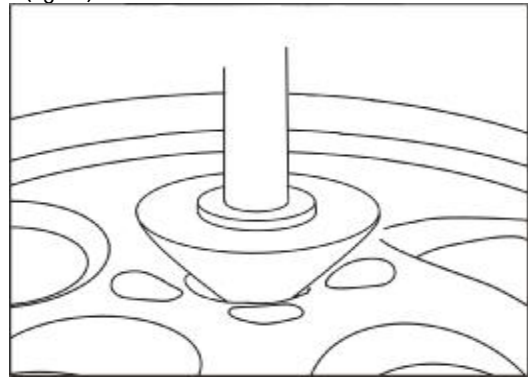
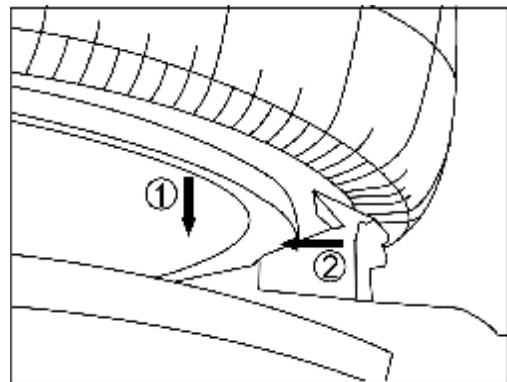

Fig.19
Fig.20
- I Use the cone to simple operation of outward clamping. Open the jaws outward (2-3cm away from periphery of the rim) and place the wheel on the turntable. Draw out the back swivel arm, fit and aim the cone at the central hole of the wheel (fig.19), press down the control lever to keep the rim close to the jaws, and depress pedal "⊕" to clamp it (fig.20), remove the cone.